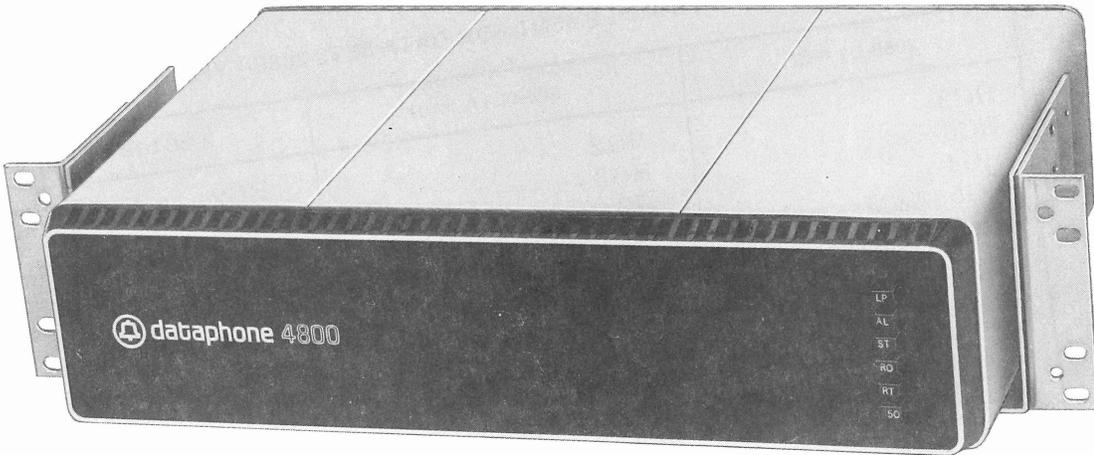

Fig. 4—Data Set 208B-Type With D-180467 Mounting Bracket Kit Installed—Front View
**2.02** DS 208B-type can be mounted in either 19- or 23-inch racks or in a KS-20018-L15 or -L17 cabinet. For rack or cabinet mounting, the data set must be equipped with a D-180467 mounting bracket kit (Fig. 4). The mounting bracket kit must be ordered separately. The data set will operate in an ambient temperature range of 40 to 120°F and a relative humidity range of 20 to 95 percent. See Part 4C for thermal considerations.